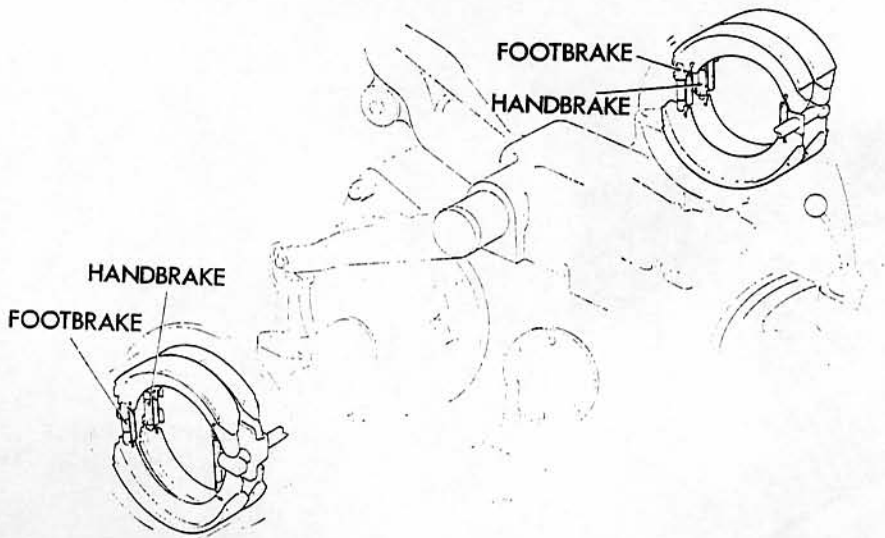
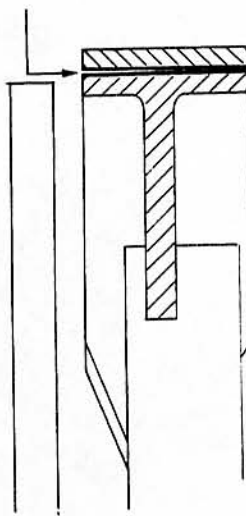

FIGURE 57
FIGURE 58 CHECKING BRAKE SHOE GAP
4. Work spring (34) into the holes at the adjuster end of the shoes (from the underside) and pull the shoes apart to insert the adjuster (27). Correct position for adjusters is shown in Fig. 57.
6. Insert the operating shaft (18) between the anchor pins (20), place the distance pieces on the anchor pins.
7. Smear both ends of the new shoes, and the flat end of the operating shaft with Girling White Brake Grease. Fit green spring (21) to shoes, place washer (30) over anchor pins and fit shoes to anchor pins.
8. Replace bridge piece (22) and fit red springs (26) to shoes and anchor pins.
9. Replace adjuster end spring, black (28) pull shoe apart and insert adjuster (27). Ensure that the adjuster is correctly positioned (see Fig. 57).
10. Thread the four hold down pins (12) through the shoes from the handbrake side. Place over each pin a cup washer (23) and spring (24). Grip each pin in turn beneath the shoe web with pliers and on to the end of the pin fit a cup washer. When the spring is compressed turn the washer to lock it under the flattened end of the pin.
11. The setting of the steady posts should be checked, although it is unlikely that any alteration will be needed. Expand the shoes until a straight edge placed across the lining of the shoes (parallel to the axle) indicates that the shoes are expanded to the same diameter. Both shoes should have a slight gap (not more than .010" (.254 mm.) (see Fig. 58) at the edge of the lining near the torque plate.
- If this condition is not satisfied the steady posts near the centre of the shoes needs adjusting. The steady posts near the end of the shoes need not be touched. The squareness of the foot-brake shoes is adjusted from the handbrake side and vice versa. Loosen the locknut, (32) under the shoe web, screw in or out the steady post (31) as required with a screwdriver through the shoe web, and when the correct position is reached tighten the locknut to a torque of 8-10 lb.ft. (1.1-1.38 Kg.m.).
12. Fit cable guide (8), tighten bolts and nuts to a torque of 4-6 lb.ft. (.55-.83 Kg.m.) and apply a smear of brake grease to the groove. Grease the cable and place in position.